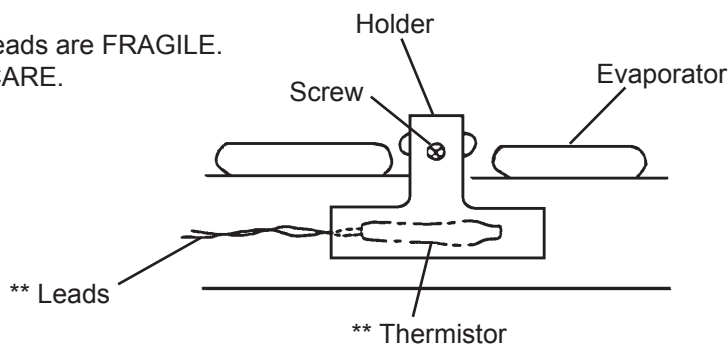

Fig. 16
- 5) Install the new thermistor in the reverse order of the removal procedure, by using a sealant (High-thermal Conduct Type). See Fig. 16.